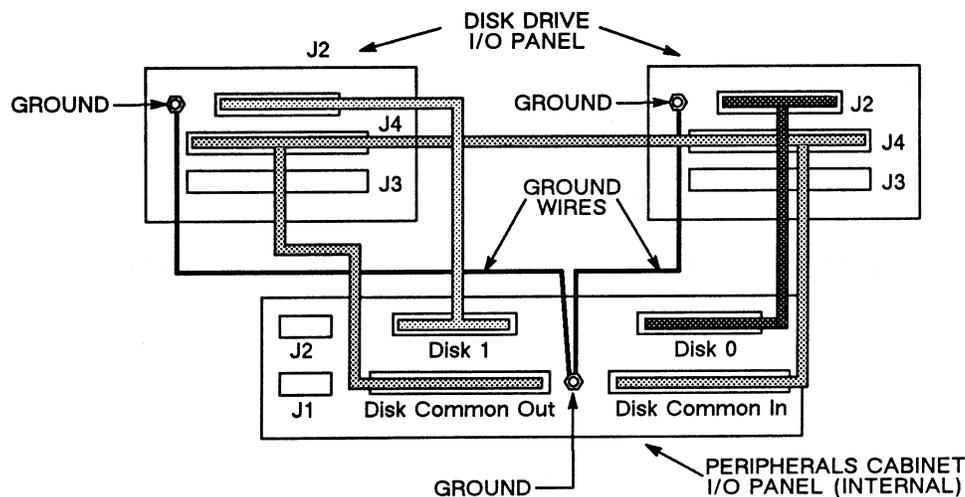

Figure 7-18. 515MB Disk Drive Internal Cabling, First Configuration
11. Plug the 60-pin male connector (located on the cable that leads internally from the Disk Common In connector on the I/O panel to disk drive 0 and then to disk drive 1) into female connector J4 (CDC) or P4 (NEC) on disk drive 1. See Figure 7-18.
Figure 7-18 shows internal cabling connections when you install a second 515MB disk drive (CDC).